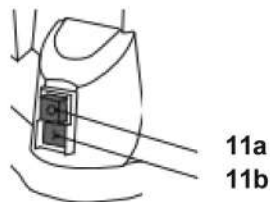

Fig 13
- > To switch on the product, simply press the on button I (11b) (fig. 13).